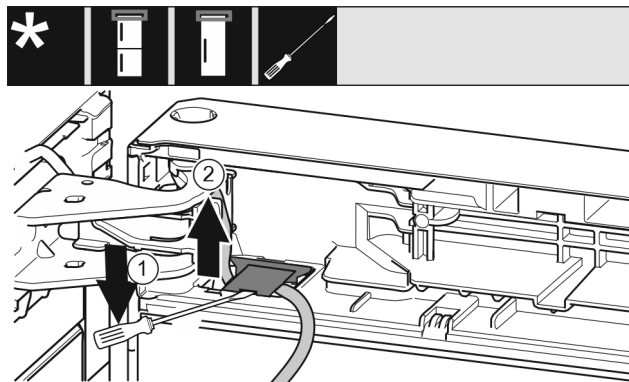

Fig. 8
- ▶ Lift up the cover with a screwdriver and pull it out. Fig. 8 (1)
- ▶ Pull out the cable. Fig. 8 (2)